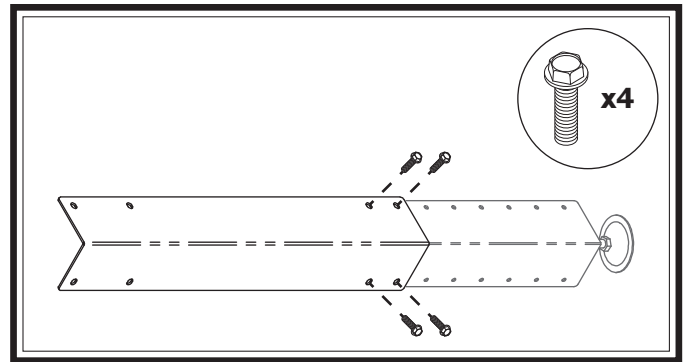

Figure 4. Attaching lower support leg to upper leg.
- Attach each lower support leg to each upper support leg using (4) 5/16"-18 x 1/2" flange bolts (see **Figure 4**).